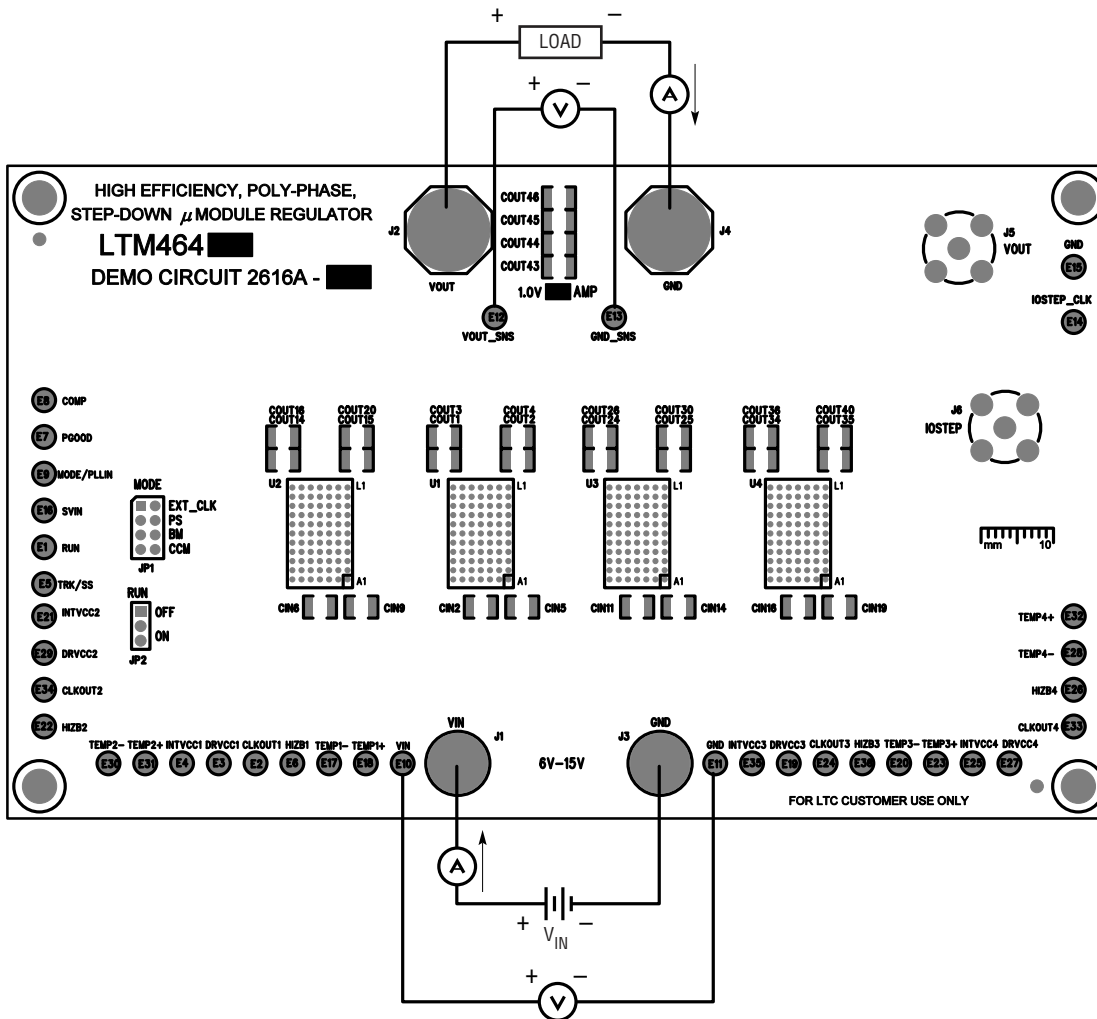

Figure 1. Measurement Setup of DC2616A-C
Demonstration circuit DC2616A-C is an easy way to evaluate the performance of polyphase operation of the LTM4645EY. Due to the high input/output current, the user should select the proper input supply/load/cable which can sustain the full load operation. Please refer to Figure 1 for proper measurement equipment setup and follow the procedure below:
2. With power off, connect the input power supply, load and meters as shown in Figure 1. Preset the load to 0A and V_{IN} supply to 12V.